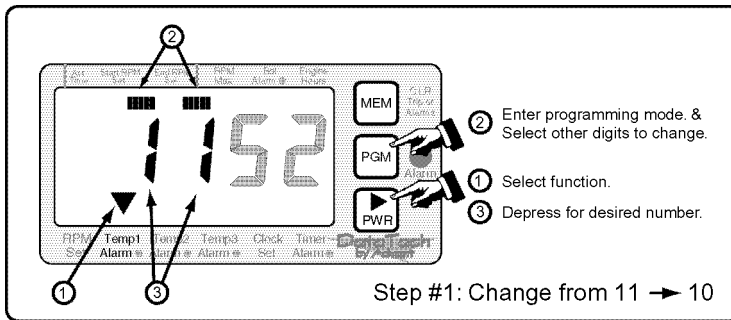

Figure 5a
Refer to Figures 5a, 5b, & 5c and the instructions that follow.
- (Fig 5a) ① Depress to select Clock
- (Fig 5a) ② Depress to select the Clock hours memory
- (Fig 5a) ③
- (Fig 5a) ① Depress  to select Temp1, Temp2 or Temp3. Its current setting is displayed
- (Fig 5a) ② Depress  to enter the '1000s' digit
- (Fig 5a) ③ Depress  until the correct value (0 - 1) is displayed
- (Fig 5a) ① Depress  to select Function
- (Fig 5a) ② Depress  to select first digit (left most)
- (Fig 5a) ③ Depress  until the desired value is displayed